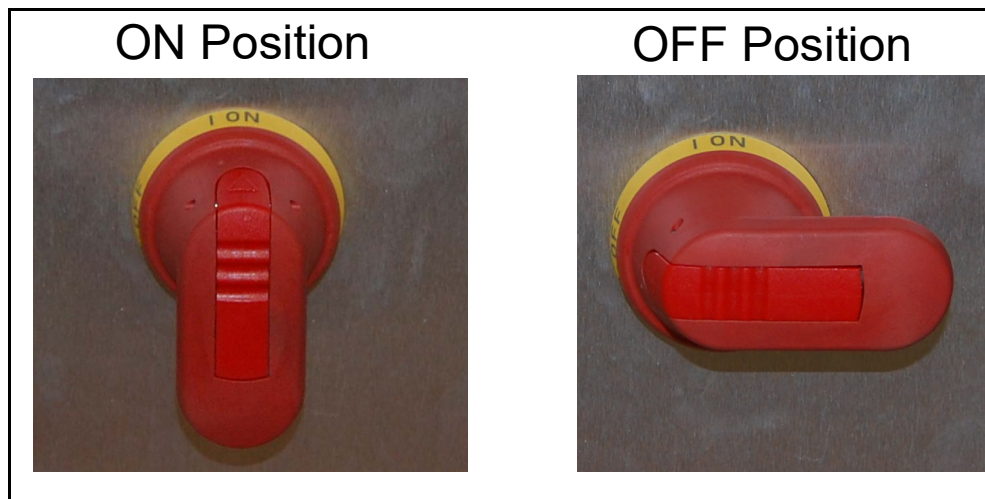

Figure 4-2: Main Disconnect Switch Handle - On/Off Positions
1. Confirm that the red handle of the main disconnect switch found within the cabinet is in the ON position (see Figure 4-2). If it is in the Off position, as described in “LOTO - Machine Maintenance and Repair” on page 35, check to see if anyone is working on the machine before attempting to power up.